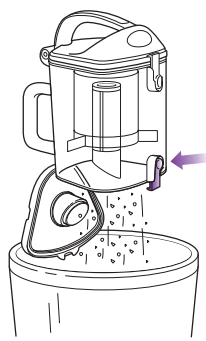

Fig. 17
- 2 Hold the dust cup over a trash receptacle and press the bottom door release button. (Fig. 17) Tap gently to empty contents. Press the door shut again until it clicks.